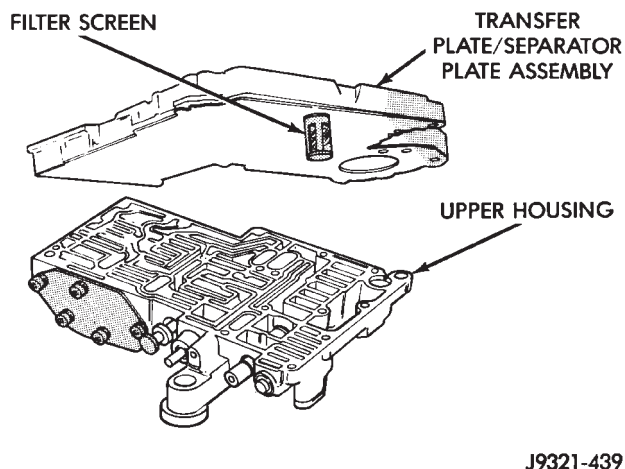

Fig. 72 Installing Transfer Plate On Upper Housing
(2) Position assembled transfer plate and upper housing separator plate on upper housing (Fig. 72). Be sure filter screen is seated in proper housing recess.